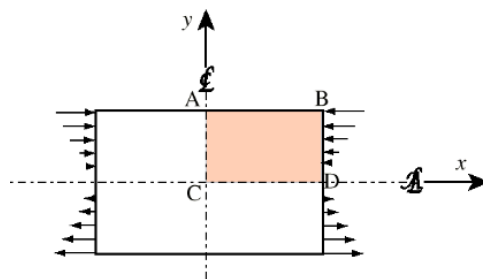

Figure 1
3. Could the problem showed in figure 1 be reduced using either symmetry or antisymmetry?